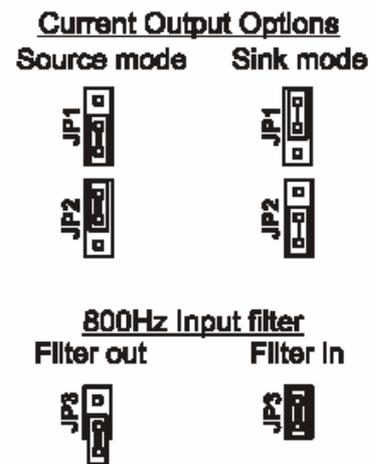

Figure 3.2.
N.B. In this mode neither connection to the output load is electrically common to the load cell. Select this option by fitting the two jumpers, JP1 and JP2 to the 'outside' positions (See Figure 3.2)
Select this option by fitting the two jumpers, JP1 and JP2 to the 'inside' positions (See Figure 3.2)
\*\* Note: A SECONDARY low pass filter, with a cut off frequency of 800Hz, can be switched into the COND SGA input by fitting a link to JP3 (see Figure 3.2)